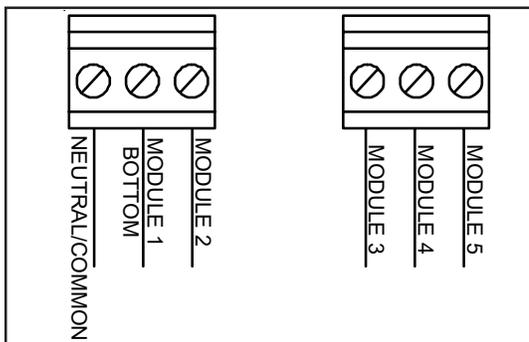

Figure 1. Wiring Cat. No. 102TBS
- d. Ground the flange by pulling the ground wire through the mounting surface clearance hole and center hole of the gasket. Connect earth ground to the bottom of the base mount flange using the ground screw (G) and wire retention terminal cup washer (H).
- f. Align the mounting gasket (D) and flange (A) on the panel. Secure using (4) #10-24 x 1" (25 mm) pan head screws (B), (4) external tooth #10 star washers (E) and (4) #10-24 hex nuts (F).
- c. **Cat. No. 102DMBS** Using the supplied mounting gasket as a template, punch the four mounting holes. Punch the wiring clearance hole in the mounting surface to be sufficiently larger than that in the gasket to ensure the wiring insulation is protected from abrasion by the gasket (without interfering with the mounting screw holes), or provide other appropriate wire insulation abrasion protection as needed. Mount the base to the surface using the (2) screws (supplied).
- a. **Cat. No. 102TBS** Connect field wiring to the terminal block as shown in Figure 1.